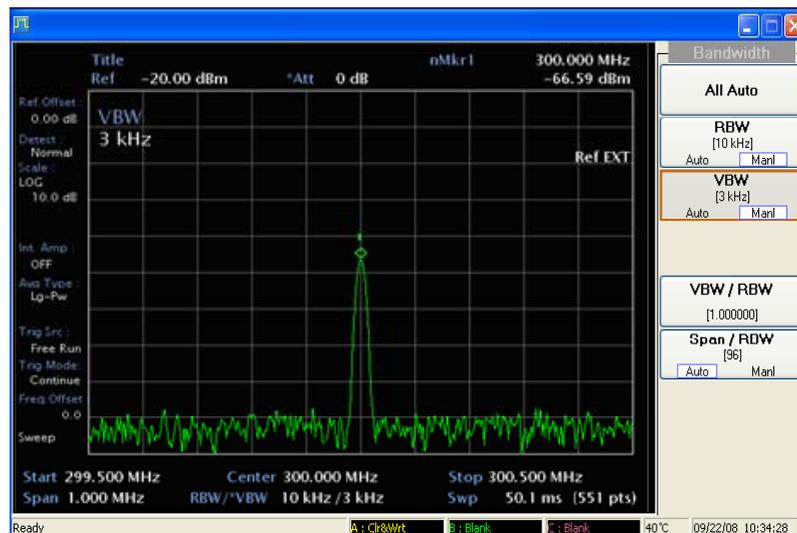

Fig. A-14 Decreasing video bandwidth
- 8 A '*' appears next to the VBW annotation at the bottom of the screen, indicating that the video bandwidth is not coupled to the resolution bandwidth. See Fig. A-14.